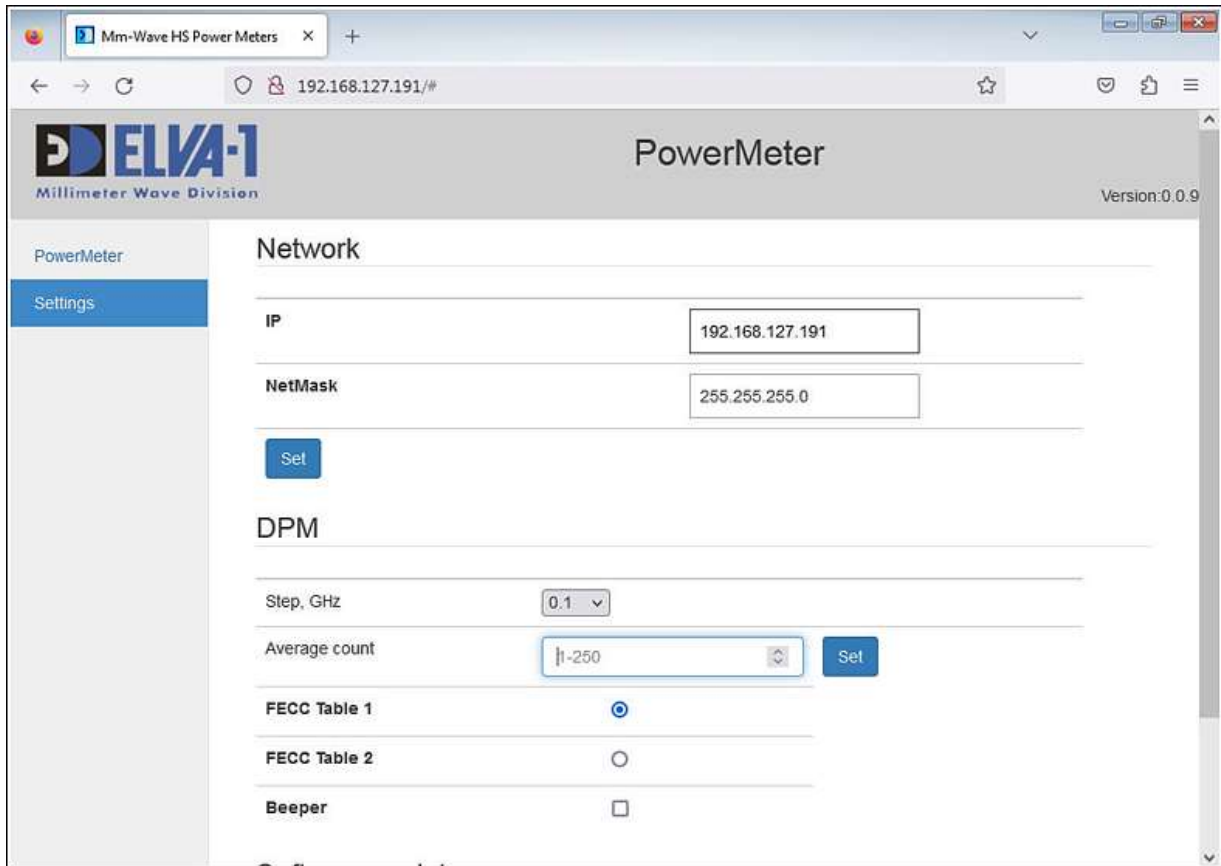

Fig.12. Average count setup
- This parameter represents the number of measurement averages used in power calculations. The range of values is 1-250, with a default value of 50, and a recommended value of 50 [Fig. 12].